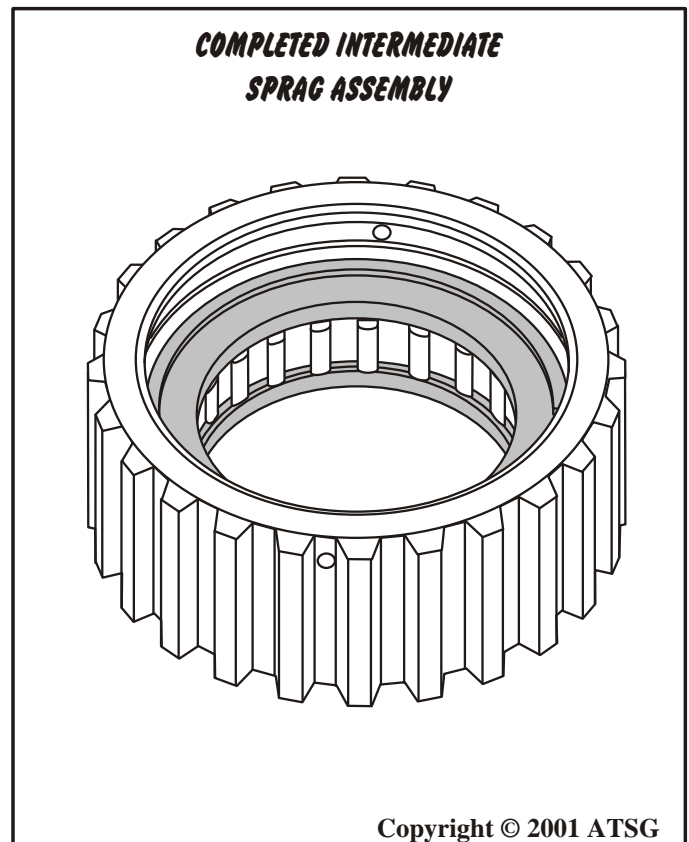

Figure 109
10. The completed intermediate sprag assembly should look like the illustration shown in Figure 109.